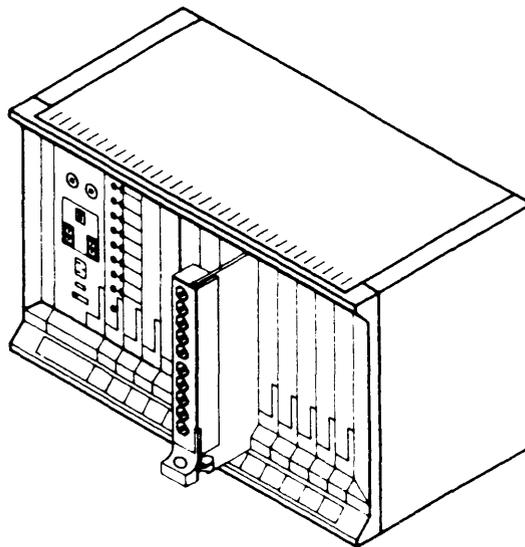

Figure 2
3. Align the module in the slot (Figure 2) making sure the edges of the circuit board are in the top and bottom grooves of the slot. Slide the module into the slot until the latch on the module locks into place.